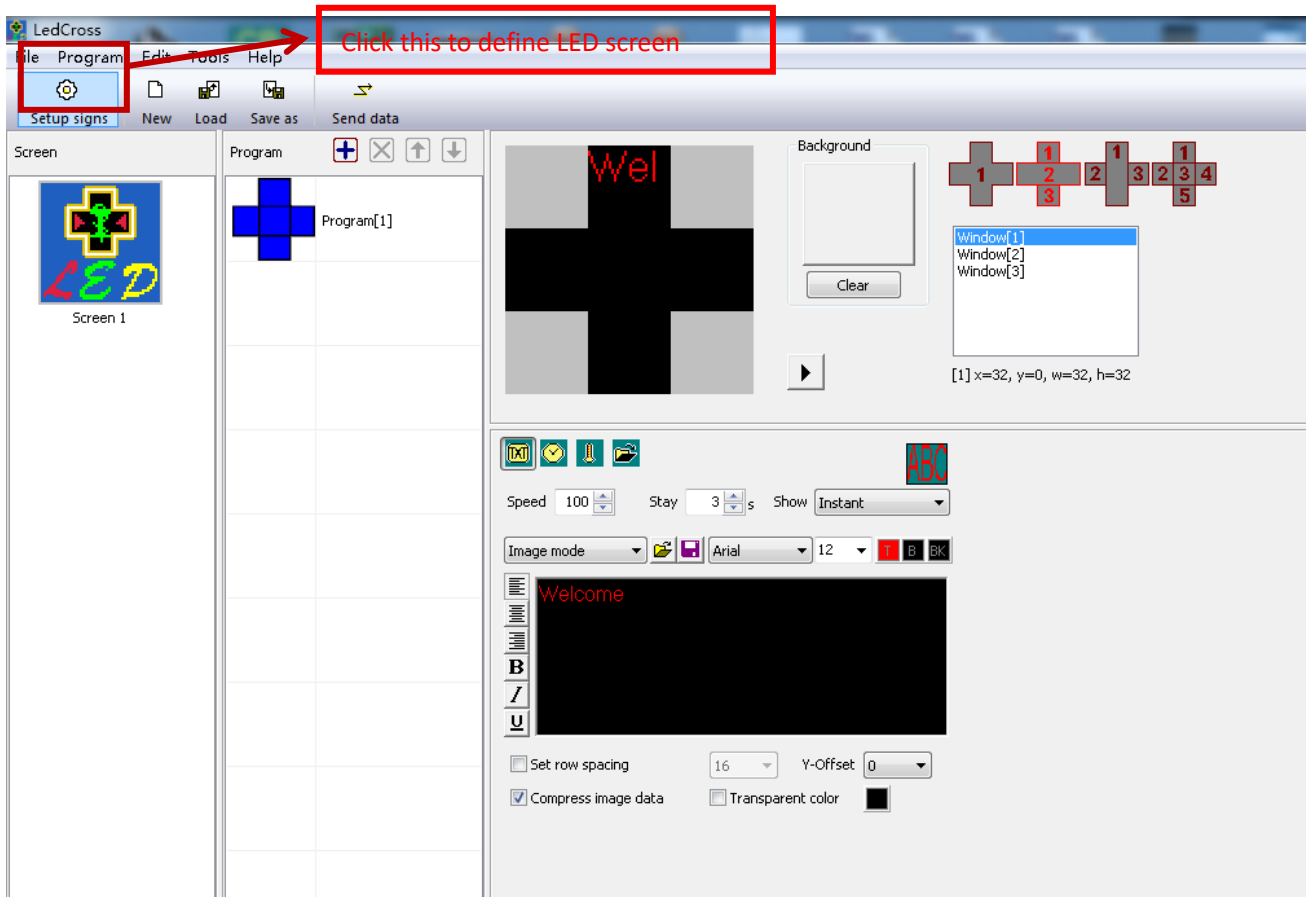

figure 2
- 1) Click “setup signs” or “File” -- “setup signs” enter “LED Screen” (define LED screen), as shown in figure 2.